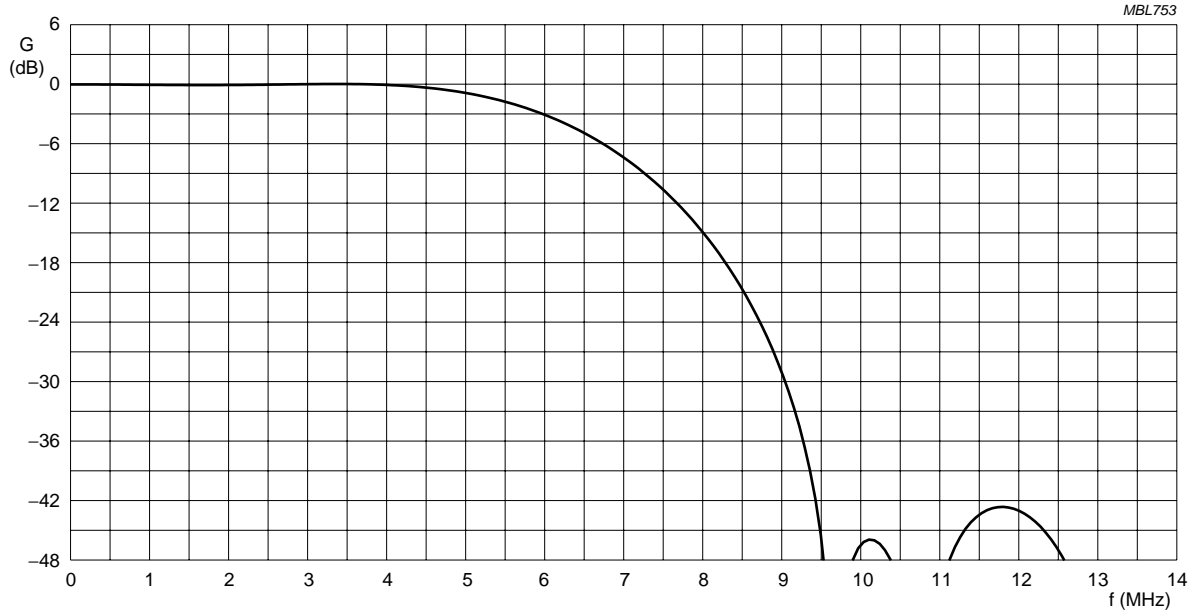

Fig.5 Decimation filter.
The SAA7118 offers sixteen analog signal inputs, four analog main channels with source switch, clamp circuit, analog amplifier, anti-alias filter and video 9-bit CMOS ADC with a Decimation Filter (DF); see Figs 5 and 8.